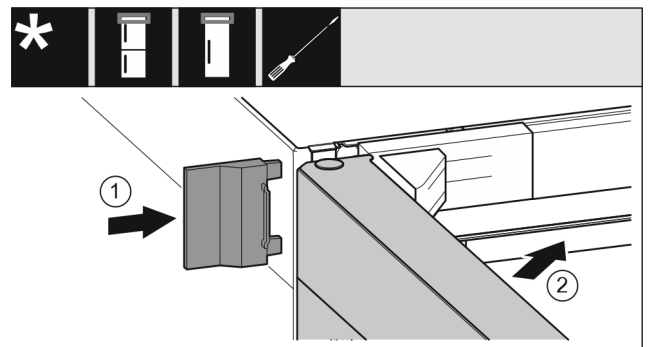

Fig. 21
- ▶ Slide on the outer cover. Fig. 21 (1)
- ▶ Close the upper door. Fig. 21 (2)